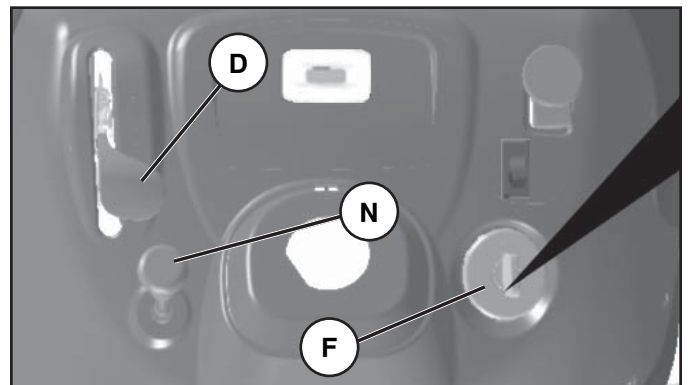

Fig. 18
TO USE THROTTLE CONTROL (D) (See Fig. 18)